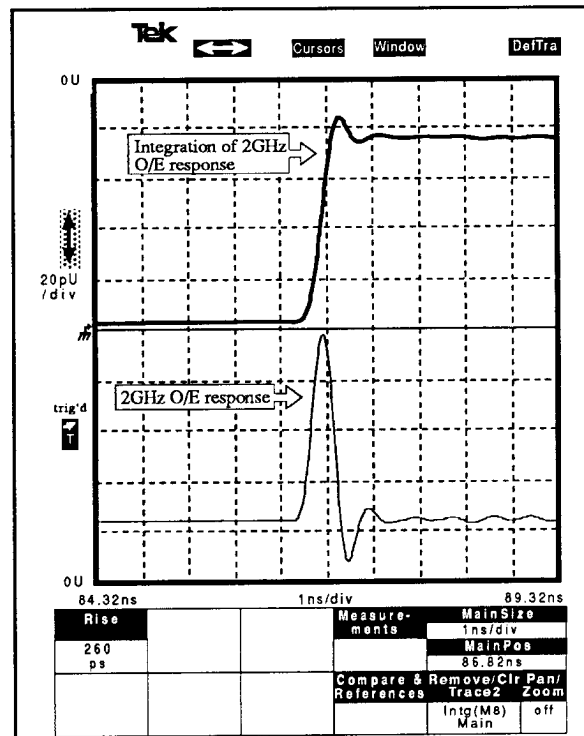

Figure 4-4. Integrated Response Curve.
17. Select the **Def Tra** arrow in the upper-right side of the oscilloscope screen. Define the trace as **Intg(StoX-M)**, where **StoX** is the trace stored in step 10 and **M** is the mean value measured in step 13. A trace similar to that of Figure 4-4 should result. The actual curves will overlap but they are shown separately here for clarity.